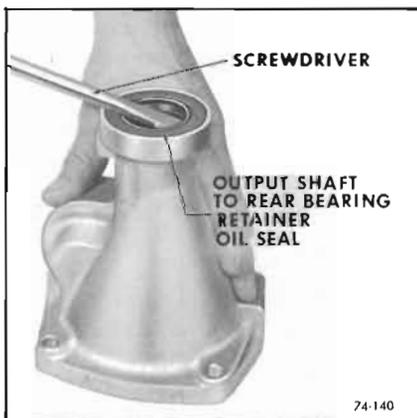

Figure 74-140
1. Inspect and if necessary remove output shaft to rear bearing retainer oil seal. See Figure 74-140.